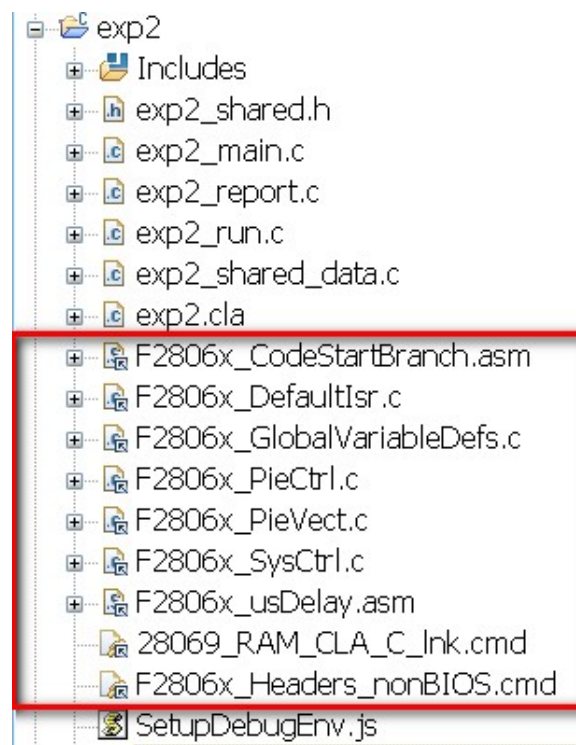

Figure 5.5: Common source files for each CLA example
- Import the exp2 project into your workspace (see Fig. 5.5).